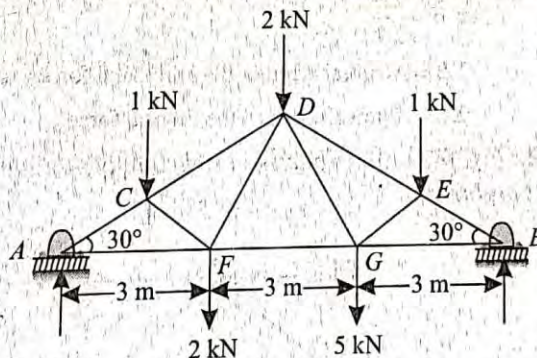

Fig. 9.26.
**Example 9.11.** A truss of 9 m span is loaded as shown in Fig. 9.26.